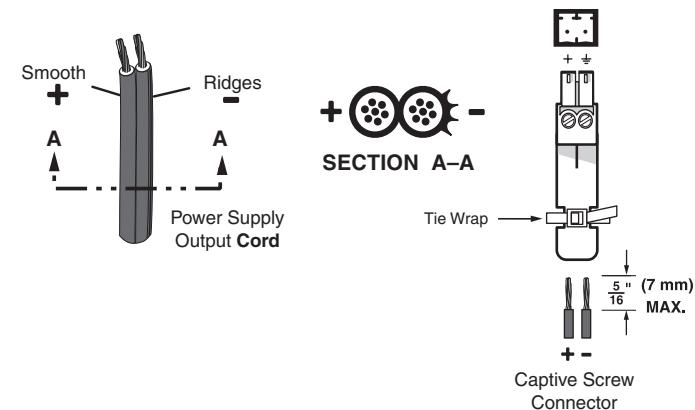

Figure 9 — Power connector wiring
- ② **HD-SDI or SDI Outputs (1 through 4) connectors** — Connect up to four HD-SDI or SDI devices to these BNC connectors. If the MDA recognizes the input rate, the MDA outputs re-clocked HD-SDI or SDI outputs.
- ③ **Power connector** — Plug the external 12 VDC power supply into this 2-pole captive screw connector. The power supply is included with the unit. Figure 9, on the next page, shows how to wire the connector.